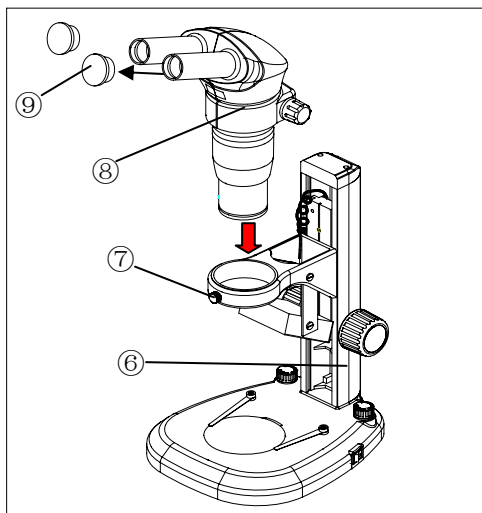
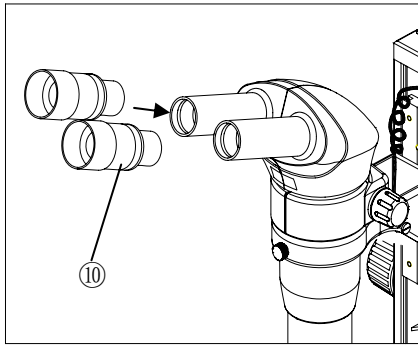
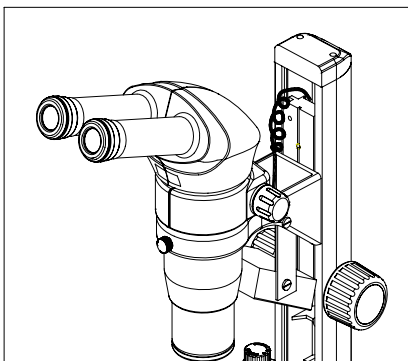

Fig.3
Fig.4
Fig.5
2.2.2 Mounting binocular head (Fig.3)
2.2.3 Mounting eyepieces (Fig.3、 Fig.4、 Fig.5)
1. Remove the eyepiece dust caps⑨ and gently insert two adjustable eyepieces ⑩ into the eyepiece sleeves until they stop, as in Fig.4.
Use with eye shades in their normal folded-down position. This will prevent eyeglasses from being scratched by the eyepiece as in Fig 5.